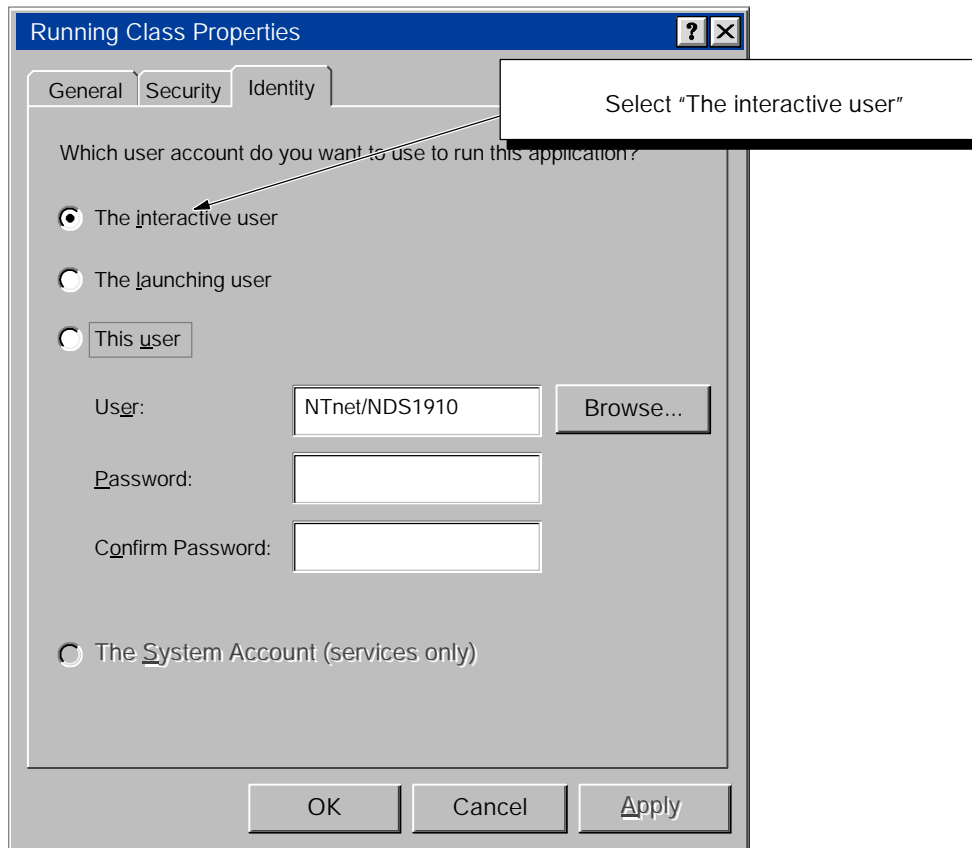

Figure D-11 Configuring the DCOM Identity Permissions for the Server
1. Click on the Identity tab and select the "The Interactive User". See Figure D-11.